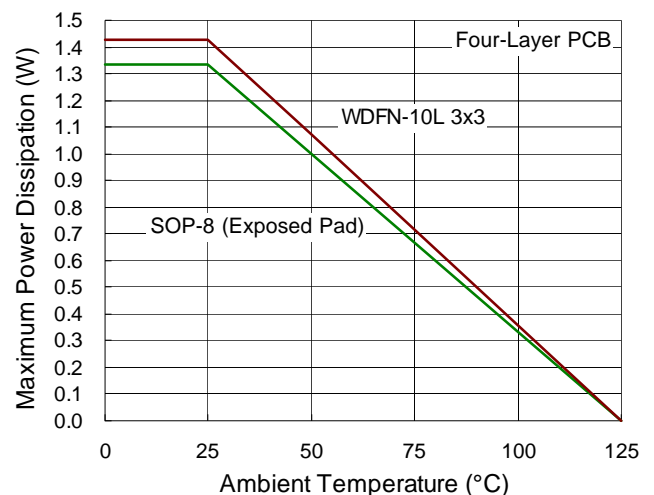

Figure 6. Derating Curve of Maximum Power Dissipation
The maximum power dissipation depends on the operating ambient temperature for fixed  $T_{J(MAX)}$  and thermal resistance,  $\theta_{JA}$ . The derating curve in Figure 6 allow the designer to see the effect of rising ambient temperature on the maximum power dissipation.
- ▶ An example of PCB layout guide is shown in Figure 6 for reference.